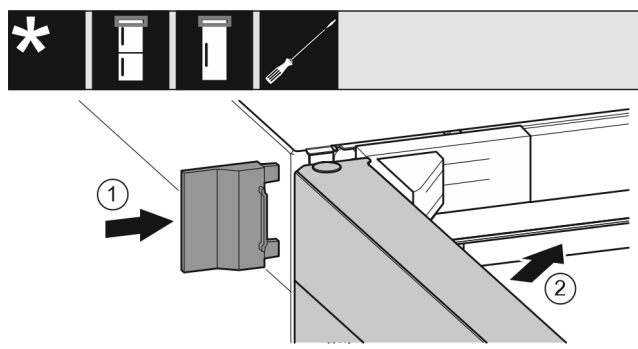

Fig. 20
- ▶ Push the outer cover Fig. 20 (1) on.
- ▶ Close the upper door Fig. 20 (2).